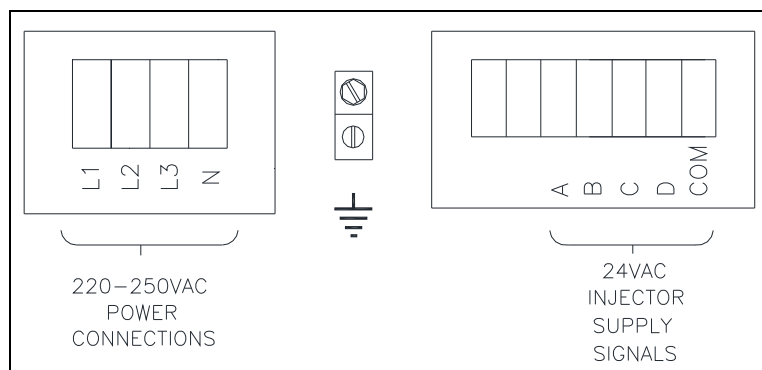

Figure 1-5: Electrical Connections and Chemical Supply Signals
1.7.1.2 Remove the top panel of the washer and locate the power terminal block near the back of the control compartment. Connections are as shown in Figure 1-5.